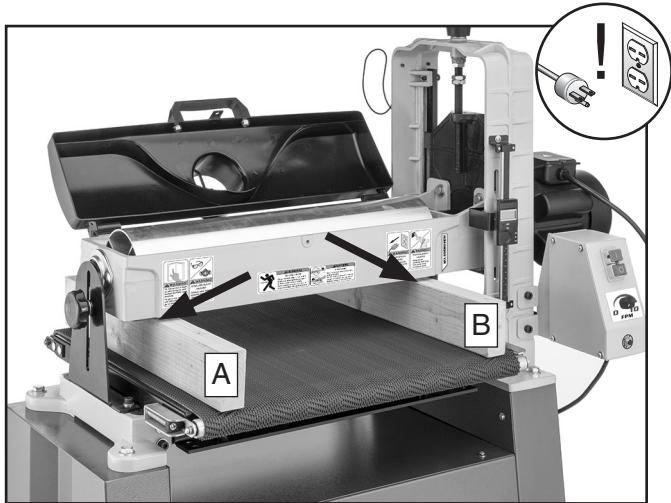

Figure 59. Example of gauge blocks placed under drum.
3. Remove sandpaper from drum and place gauge blocks as shown in **Figure 59**.
6. Starting at A board (see **Figure 59**), find largest size feeler gauge that can pass between drum and your gauge block. (Feeler gauge should slide with moderate resistance, without forcing drum to roll.)